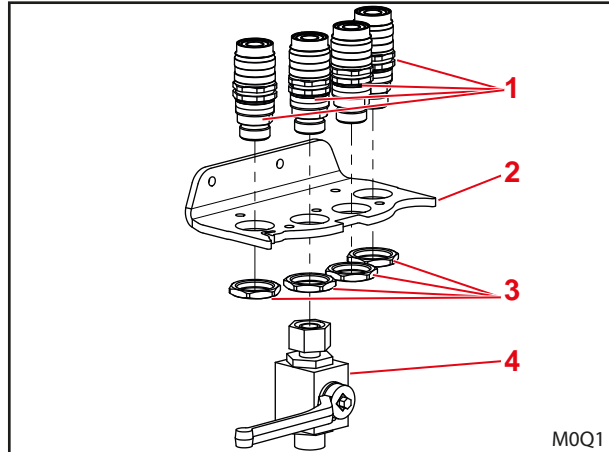

Fig. 10 Installing the bracket
- (1) Fasten the bracket with 2 screws M8x20 on the right mounting part.
**i** Note the position of the bracket. The angle must face upwards (see Fig. 10).
- (2) Fasten 4 hydraulic couplings with the nuts on the bracket.
- (3) For Standard hydraulic system: Install the shut-off valve on the coupling for the lifting line.
- (4) Connect 4 hydraulic lines below on the couplings and/or on the shut-off valve.